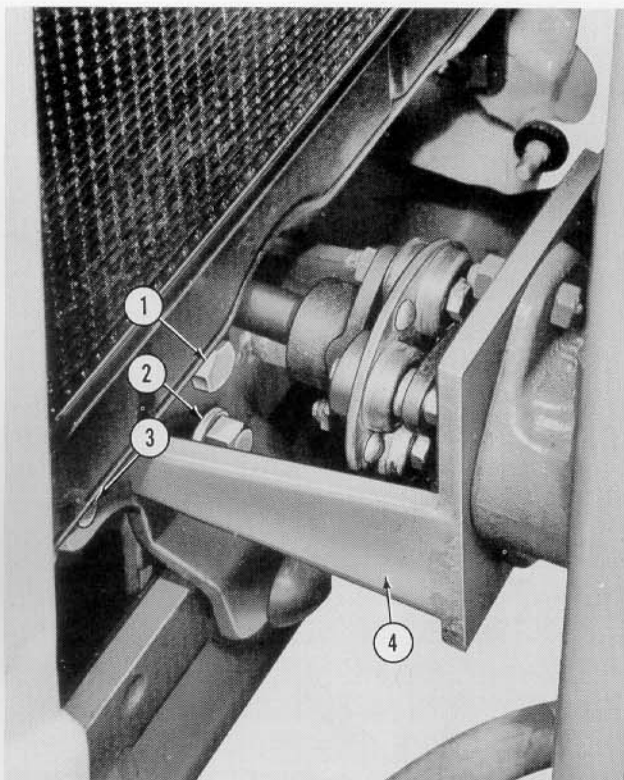

Figure 9
- f. When the mounting bracket (4), Figure 9, is properly seated, insert the  $\frac{1}{2}$ " x  $1\frac{1}{2}$ " bolt and lockwasher (1) and the  $\frac{5}{8}$ " x  $1\frac{1}{2}$ " bolt and lockwasher (2). Tighten securely.
**NOTE:** When installing the Model 19-70 Loader on the 8N Ford Tractor, attach the bracket with the  $\frac{1}{2}$ " x  $1\frac{1}{2}$ " lockwasher and bolt (1), Figure 9. Then, using the hole (3) on each side of the bracket as a guide, drill two  $\frac{7}{16}$ " holes through the front axle support assembly. Bolt the mounting bracket to the front axle support assembly with the two  $\frac{3}{8}$ " x  $1\frac{1}{4}$ " bolts, lockwashers and nuts provided.